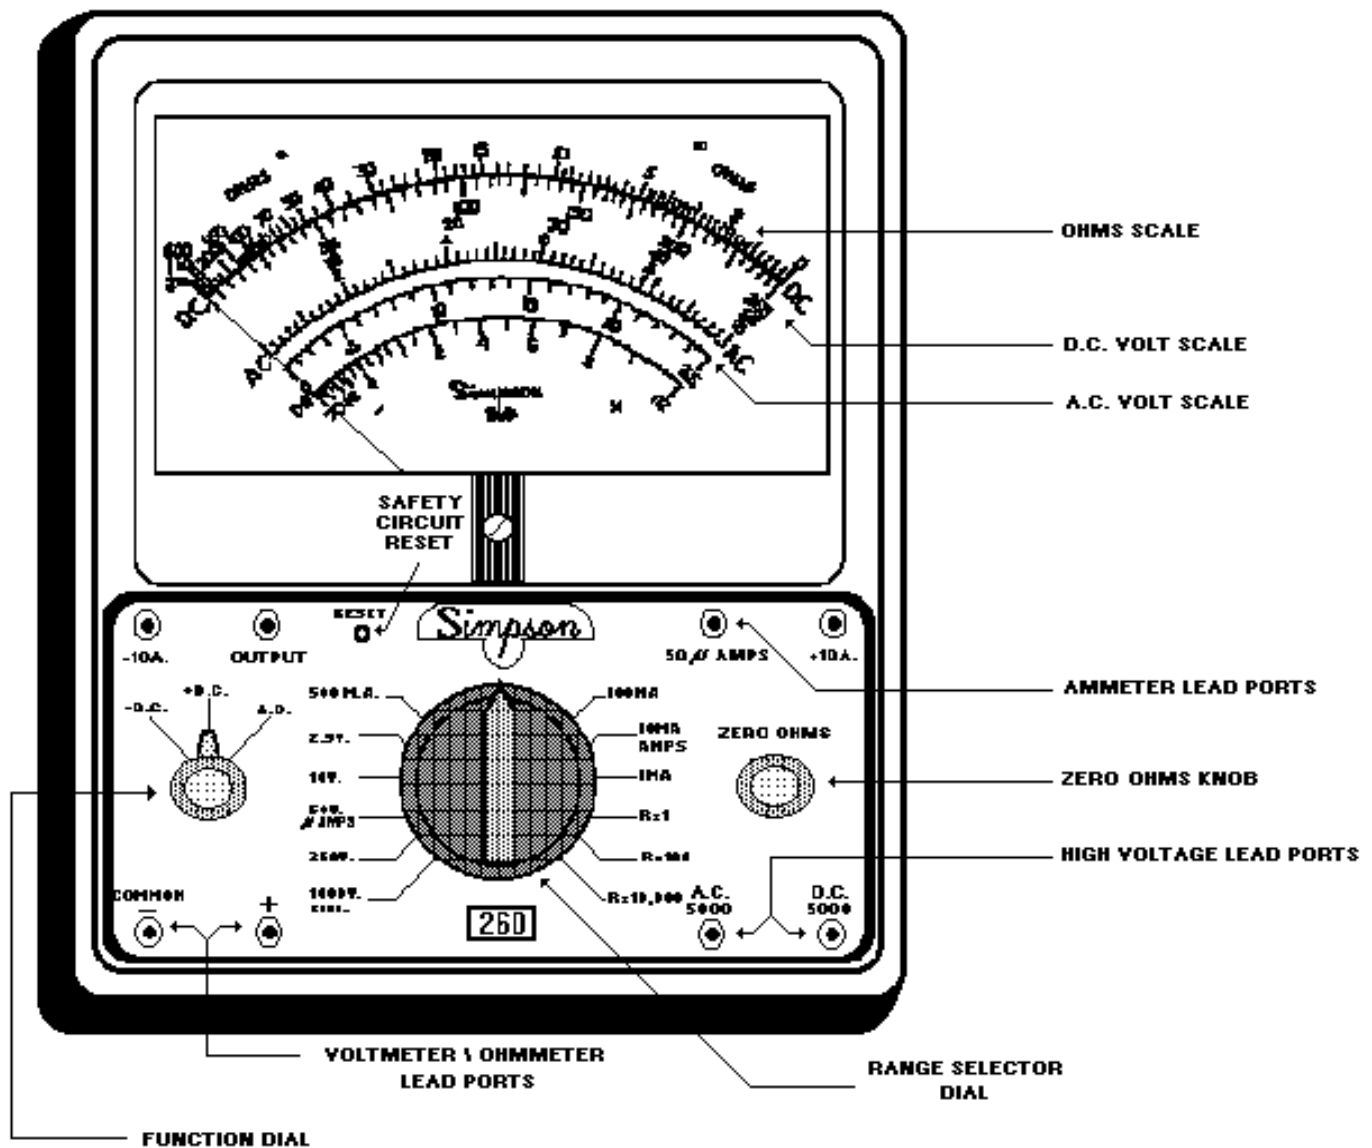

Figure 1, Simpson 260 Multimeter
- **Simpson 260.** The Simpson 260 is an analog multimeter. Figure 1 illustrates the different functions on the meter.